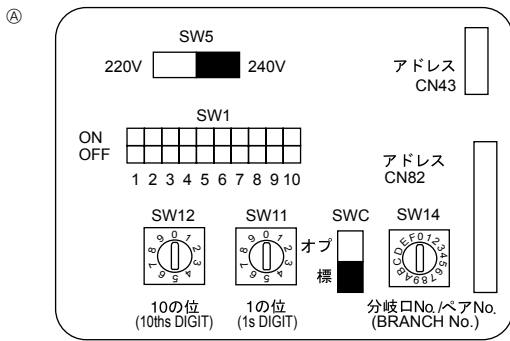

Fig. 7-4
7.5. Setting addresses (Fig. 7-4)
7.6. Sensing room temperature with the built-in sensor in a remote controller (Fig. 7-4)